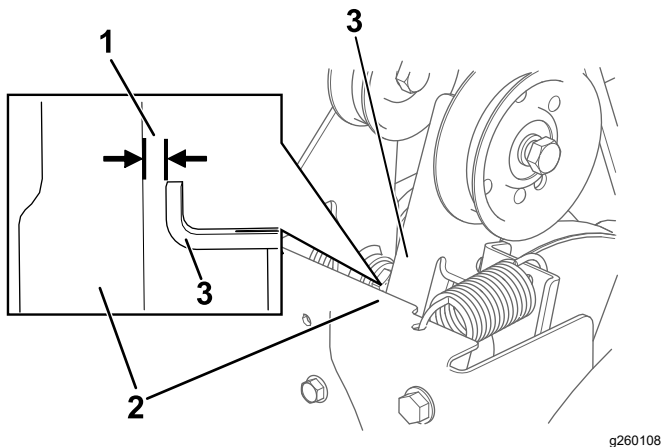

Figure 31
3. With the auger/impeller lever disengaged, ensure that the gap between the auger clutch arm and the frame of the machine is 1.5 mm (1/16 inch) as shown in Figure 31.